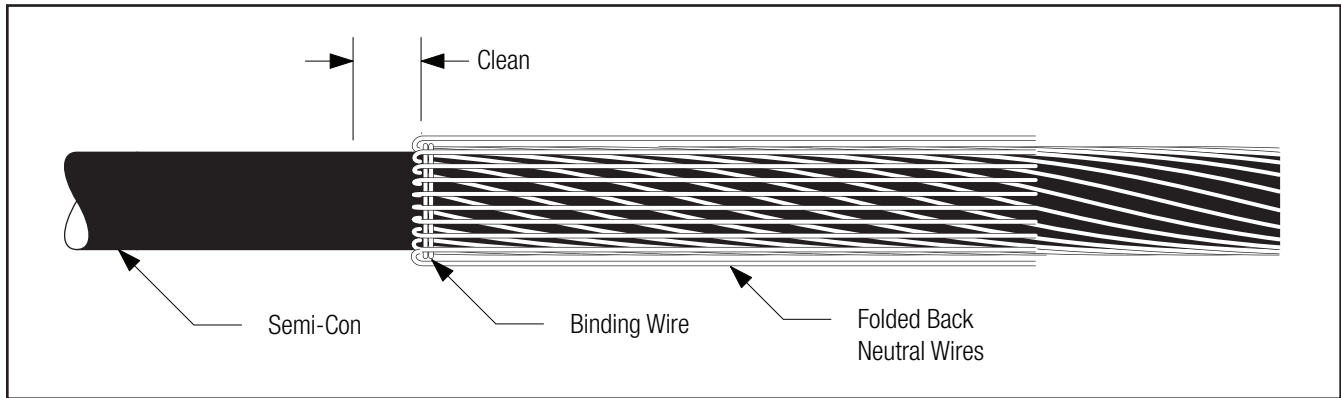

Figure 3
2.4.1 Clean cable semi-con as shown (*Figure 3*). **Do not use cable cleaning solvent.**